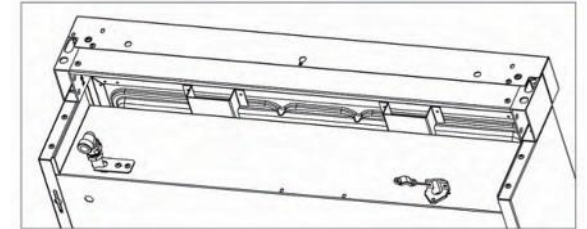

Fig. 5
- 1) Unscrew by hand the upper metal stopper of the regulator (Fig. 5)